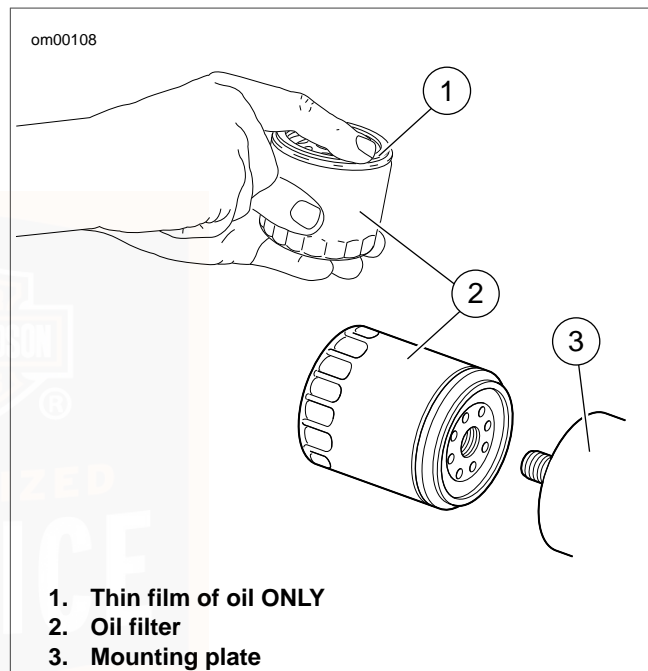

Figure 28. Applying Thin Oil Film
See Figure 28. The oil filter is located on an oil filter mount in front of the engine.
4. See Figure 28. Apply a thin film of oil to the gasket contact surface on the mounting plate, gasket and **new** oil filter.